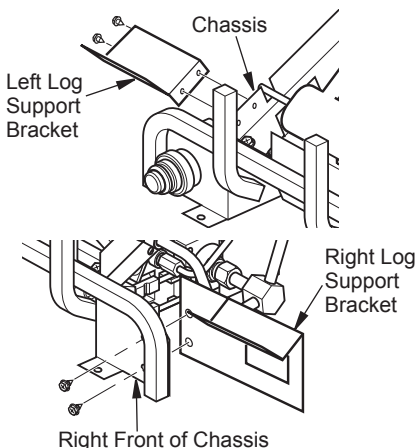

Figure 25 - Installing Log Support Brackets
1. Install left bracket to left side of chassis using 2 screws provided (see Figure 25).
2. Install right bracket to right front of chassis using 2 screws provided (see Figure 25). This bracket will also be used as remote control bracket if remote is installed.